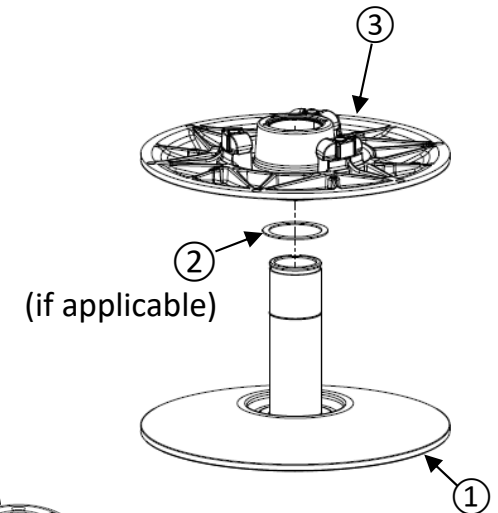

Figure 30
- Put the washer ② (if applicable) on the fixed sheave ① then put the sliding sheave ③ (figure 30).